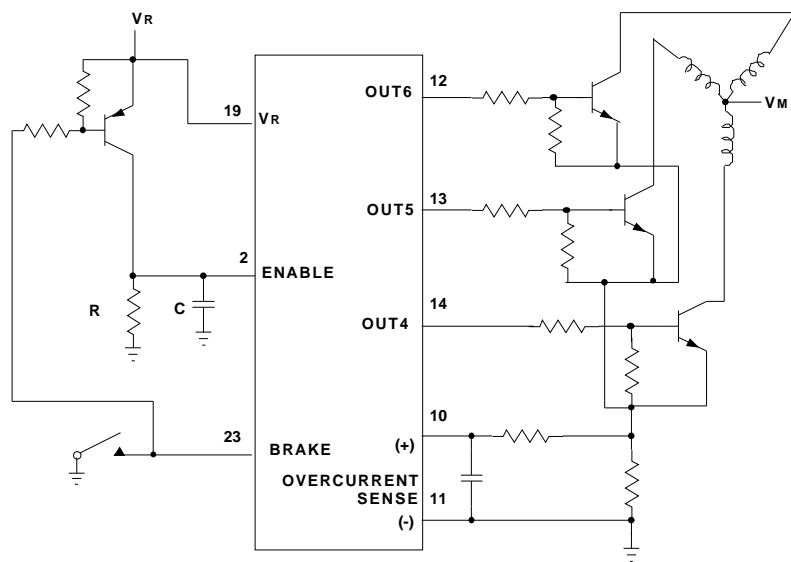
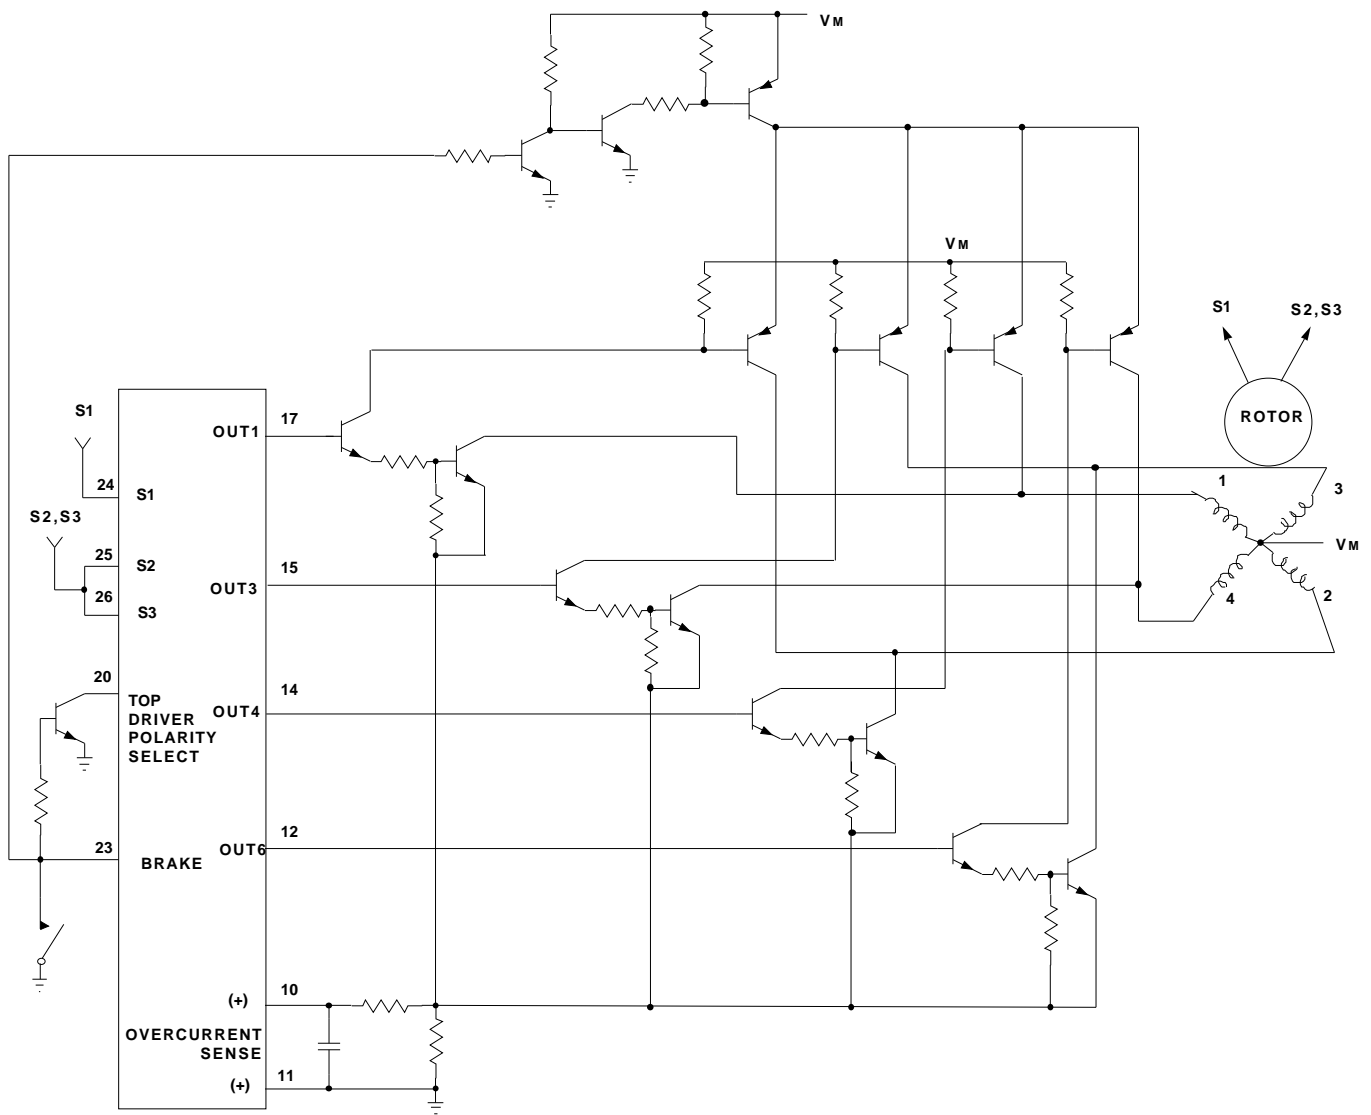
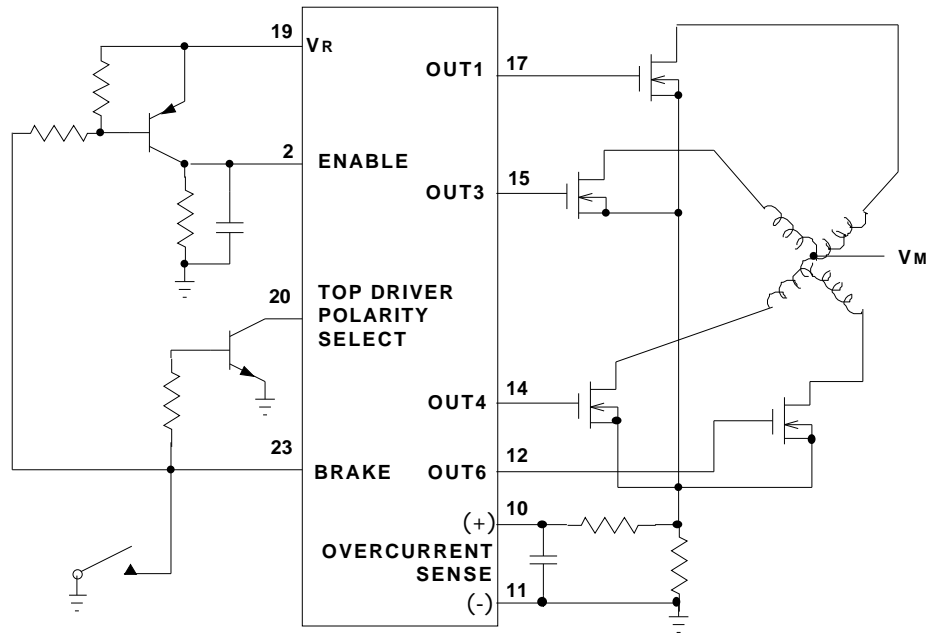

FIGURE 4. THREE PHASE HALF WAVE MOTOR CONTROLLER
FIGURE 6. FOUR PHASE FULL WAVE MOTOR CONTROLLER
FIGURE 7. FOUR PHASE HALF WAVE MOTOR CONTROLLER
**FIGURE 4.** This three phase half wave motor controller has no top power transistor to disconnect the windings from the power supply when the BRAKE is applied. Instead, a switching transistor is used which will permit braking for a time determined by the RC time constant. When the capacitor discharges past the ENABLE input switching point, the outputs will be turned off.
**FIGURE 6.** Four phase motor control requires only two Hall Sensor inputs spaced 90 electrical degrees apart. S1 is connected to one sensor and S2 and S3 are tied together and connected to the other sensor (Refer to Table 1). The BRAKE input (Pin 23) is used to control the Top Driver Select (Pin 20) and the Top Motor Drivers. When the BRAKE input is applied, the Top Motor drivers are turned off and the Top Driver Polarity Select is forced low turning on the Outputs 1 and 3. Since Outputs 4 and 6 are also turned on, the motor windings become shorted together.
FIGURE 7. This four phase half wave motor controller uses the same BRAKE circuit as in Figure 4 and switches the Top Driver Select from a high to a low as in Figure 6.